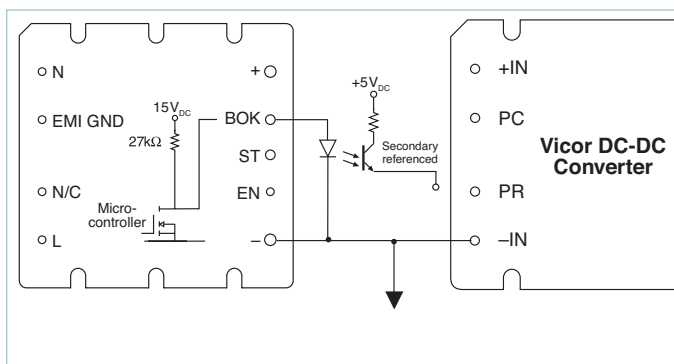

Figure 11 — Bus OK (BOK) isolated power status indicator
**Bus-OK (BOK) Pin:** (See Figure 11) The Bus-OK pin is intended to provide early-warning power fail information and is also referenced to the negative output pin.